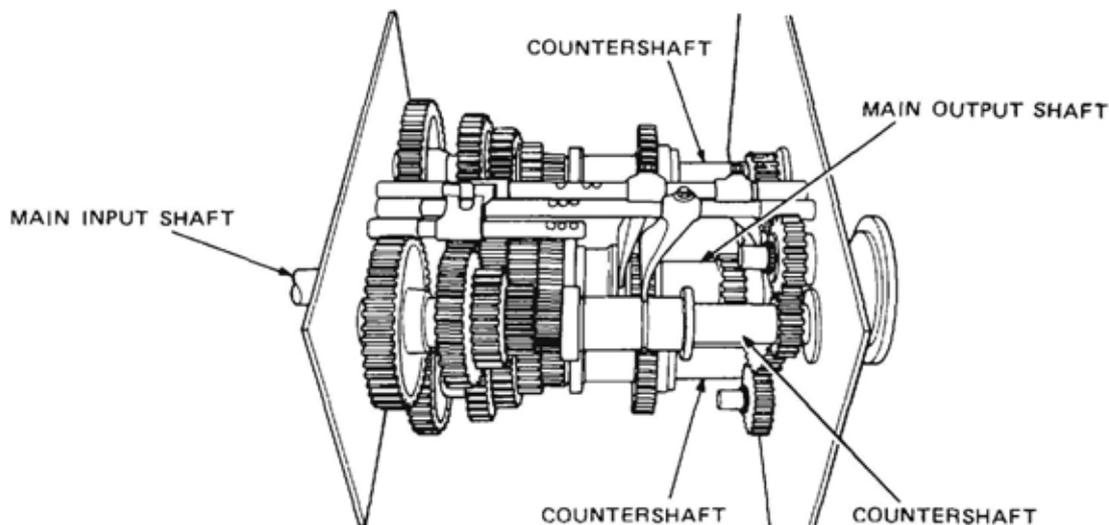

Figure 57 Gears and Countershafts
80. The short overall length and the extremely high capacity of this transmission are brought about by the use of three countershafts. The countershafts, being equally spaced around the input shaft, share the load equally and reduce the amount of shaft flexing to a minimum (Figure 57). The five forward gears are engaged by means of sliding clutches. Reverse gear is engaged by engaging the reverse sliding spur gear with the three individually mounted idler gears.